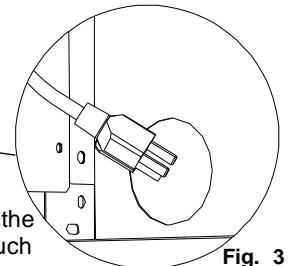

Fig. 3
- Pull out the Transformer Cord from the hole on the Cart Rear Panel. (See Fig. 3)
- Install the Tank Tray Set onto the Cart Bottom Panel using 3 Phillips Head Screws 3/16"x3/8" as shown in Fig. 3.